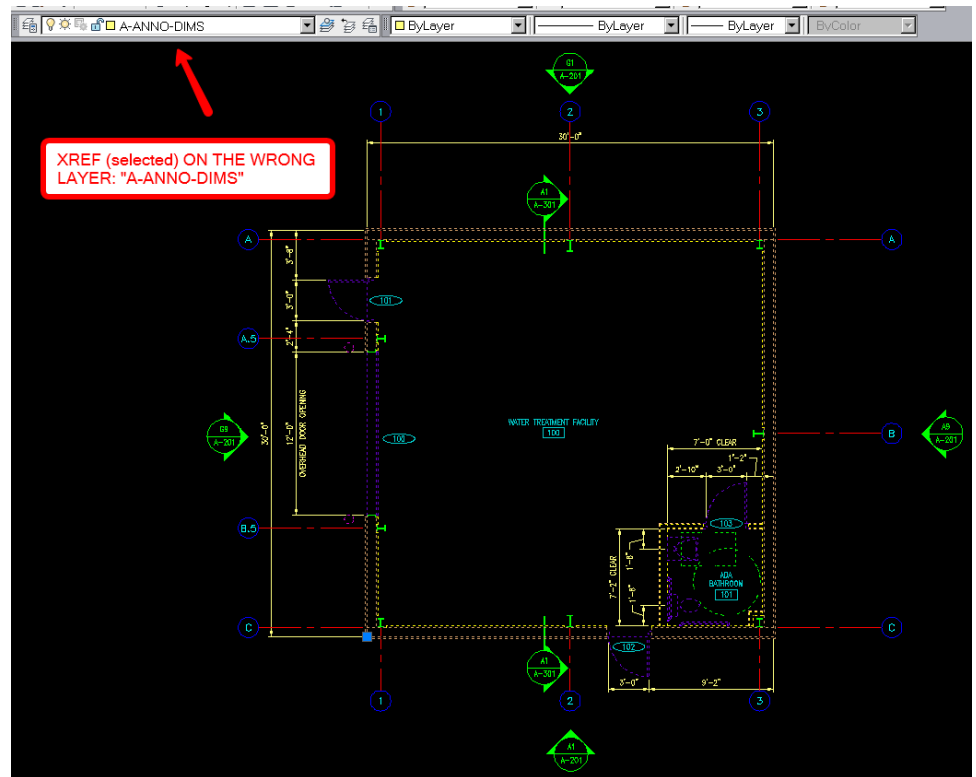

Figure 6
Layer zero (0) shouldn't be used for drafted lines or annotation in a drawing unless, of course, it is within a block and placed on a proper layer. Another wrong layer issue involves xrefs placed on any random layer and not on a proper layer. Some people forget that when attaching an xref, it comes in on whatever layer is current at the time, then they leave it that way. So if a designer happens to be working in the layer "A-ANNO-DIMS" when attaching an xref, and later on that layer needs to be frozen for some reason, the whole xref goes away and the designer is left scratching his head, wondering why. (See Figures 6 and 7).